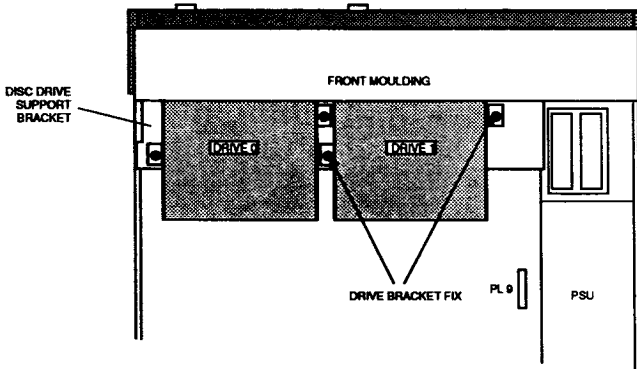

Fig. 4-Installing the new Drive 1
2. Stand the unit back on its feet and unplug the LED/speaker connector PL9 from the main board (see Fig. 4). Grasp the front moulding assembly at each end and use a straight, steady pull to withdraw it from the front of the unit.